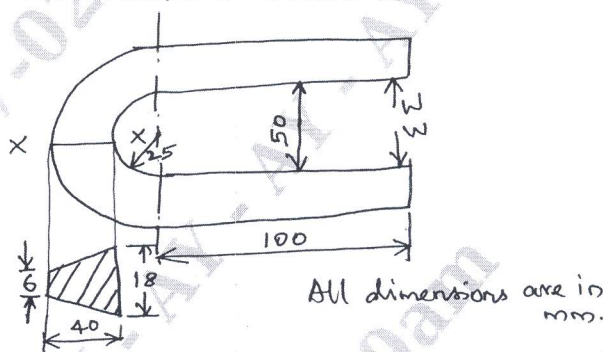

Fig Q1
- 1 The frame of a punch press is shown in Fig Q1. Find the stresses at the inner and outer surface at section X-X of the frame, if $W = 5000\text{N}$.